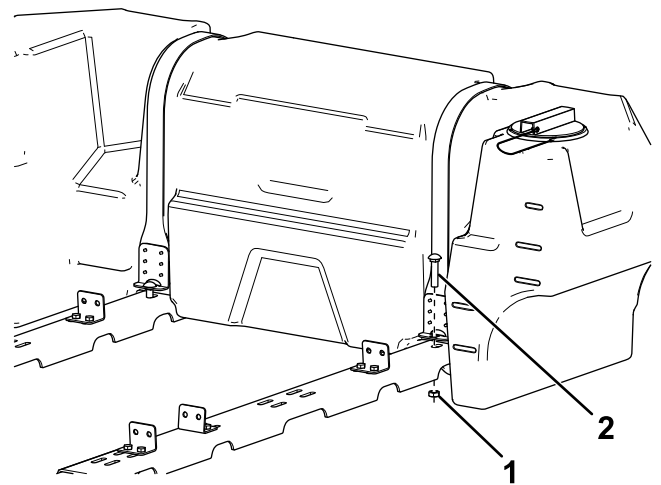

Figure 6
13. Drape the straps over the tank and loosely secure them to the frame rails using a carriage bolt and jam nut (Figure 6).